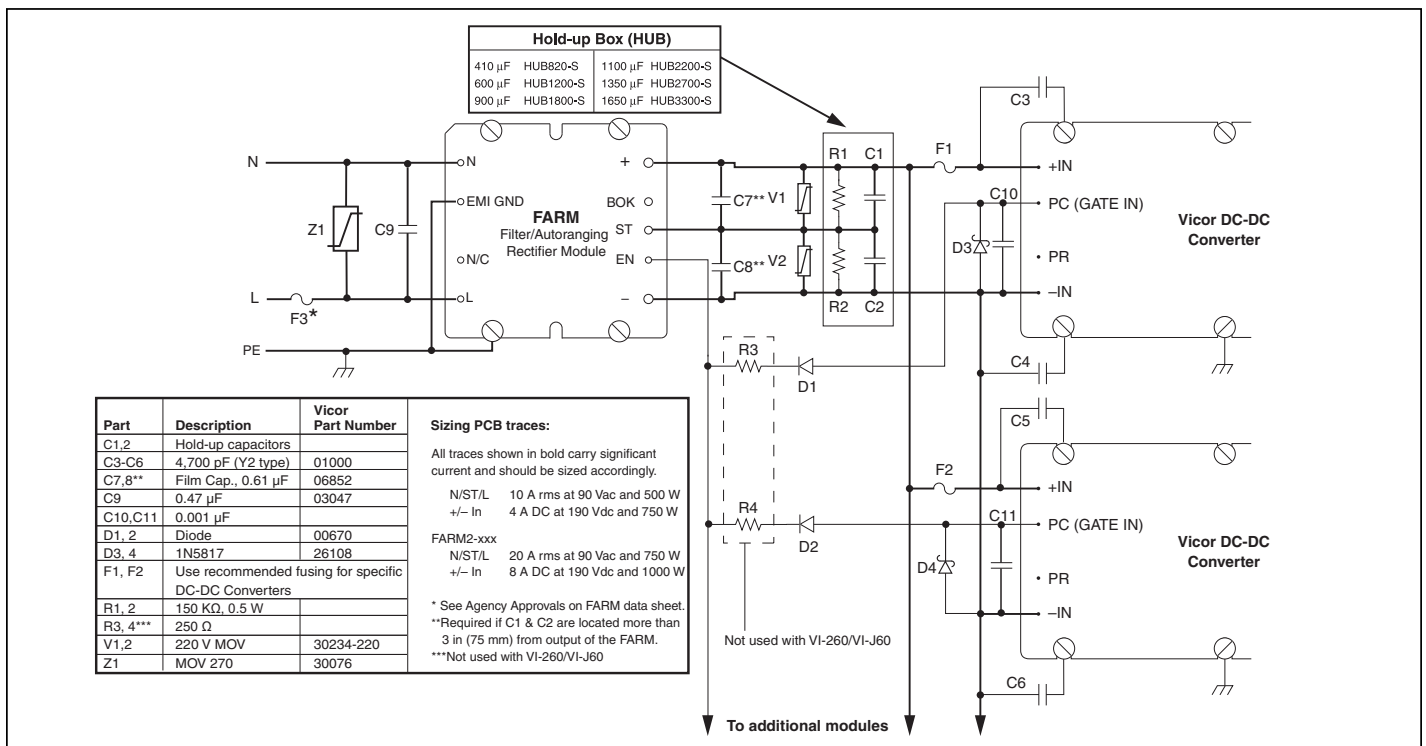

Figure 9 — Offline Power Supply Configuration
**Strap (ST) Pin.** In addition to input and output power pin connections, it is necessary to connect the Strap pin to the center junction of the series hold-up capacitors (C1, C2, see Fig. 9) for proper (autoranging) operation. Metal oxide varistors, V1 and V2 provide capacitor protection. The bleeder resistors (R1, R2, see Fig. 9) discharge the hold-up capacitors when power is switched off. Capacitors C7 and C8 are recommended if the hold-up capacitors are located more than 3 inches (75 mm) from the FARM output pins.
It should be noted that the series combination ( $C1$ ,  $C2$ , see Fig. 9) requires each capacitor to be twice the calculated value, but the required voltage rating of each capacitor is reduced to 200 V. Allowable ripple voltage on the bus (or ripple current in the capacitors) may define the capacitance requirement. Consideration should be given to converter ripple rejection and resulting output ripple voltage.